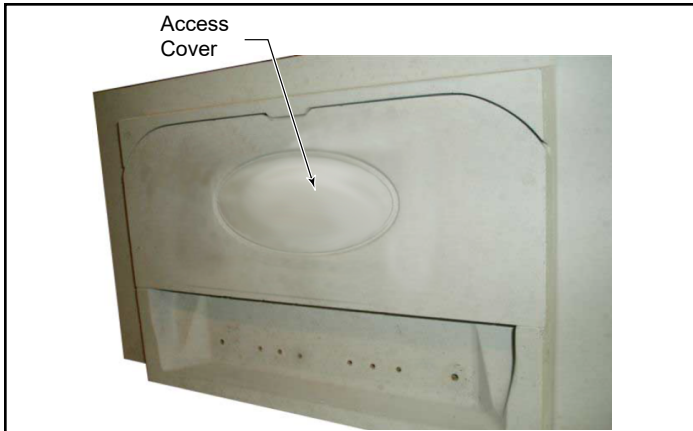

Figure 5.9 - Remove access cover.
1. Remove the access cover by gently lifting up and pulling out from the bottom edge, Figure 5.9.